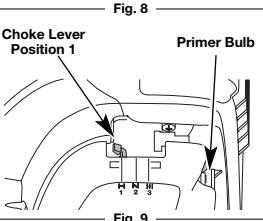

Fig. 9
3. Fully press and release the primer bulb 10 times, slowly. Some amount of fuel should be visible in the primer bulb and fuel lines (Fig. 9). If you can't see fuel in the bulb, press and release the bulb as many times as it takes before you can see fuel in it.
4. Place the choke lever in Position 1 (Fig. 9).
6. Place the choke lever in Position 2 (Fig. 9).
9. Place the choke lever in Position 3 (Fig. 9). The unit is ready for use.